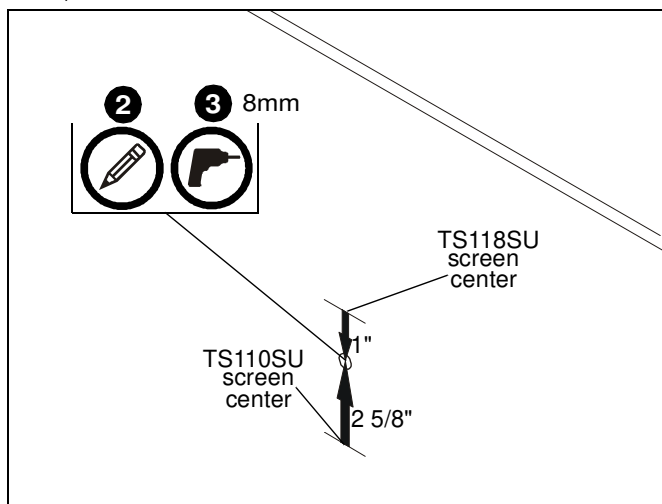

Figure 4
2. Measure 2 5/8" above desired center line if mounting TS110SU or 1" below desired center line if mounting TS118SU and mark a hole at desired mounting location. (See Figure 4)
3. Drill one 8mm hole at location marked in Step 2. (See Figure 4)